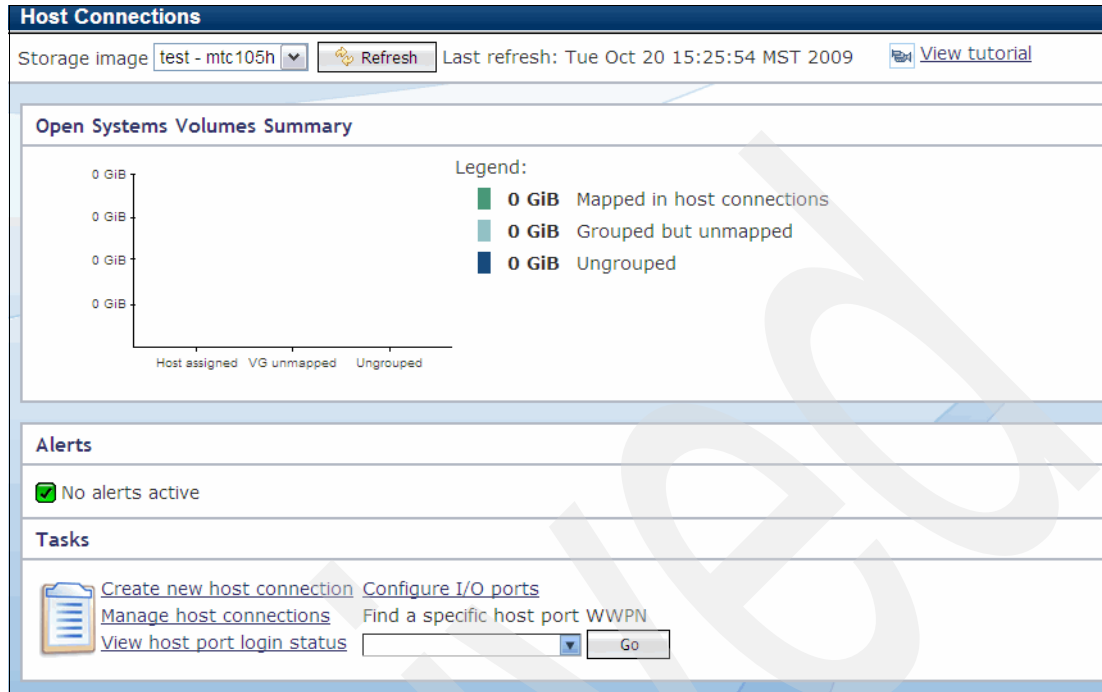

Figure 13-49 Host Connections summary
2. Select **Host Connections**. The Host systems window displays, as shown in Figure 13-49.